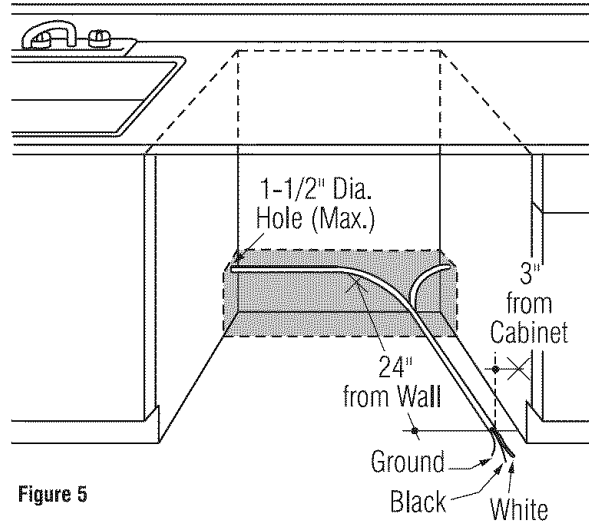

Figure 5
- The cable must be routed as shown in Fig. 5